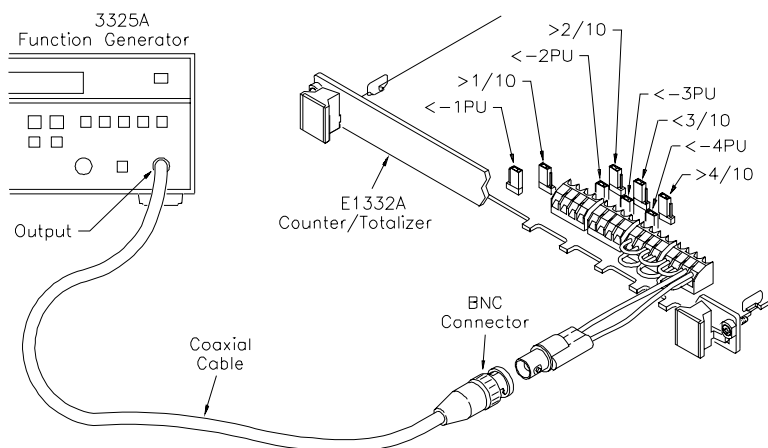

Figure 4-1. Isolated Inputs Test Setup
1. Connect the equipment as shown in Figure 4-1.